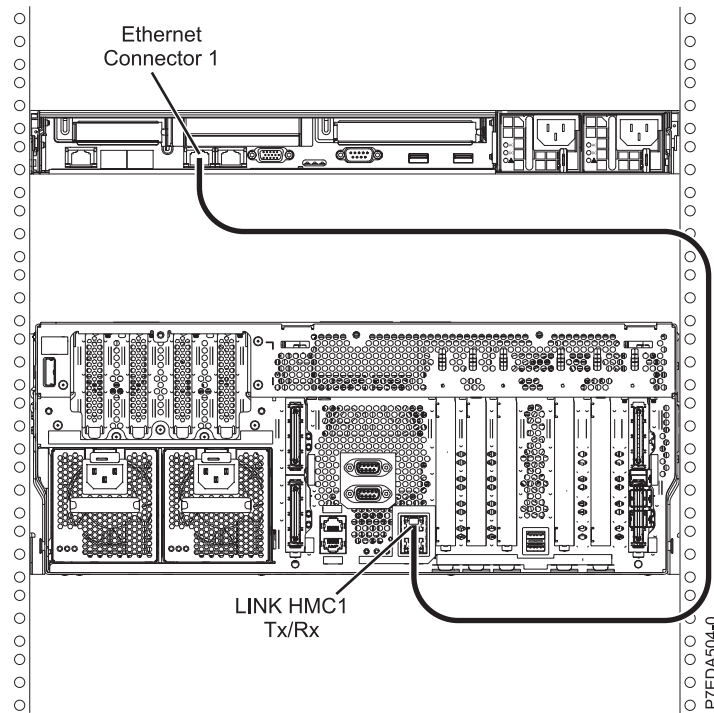

Figure 19. Attaching the HMC to the managed system
1. If you want to directly attach your HMC to the managed system, connect **Ethernet Connector 1** on the HMC to the **HMC1** port on the managed system, as shown in Figure 19.